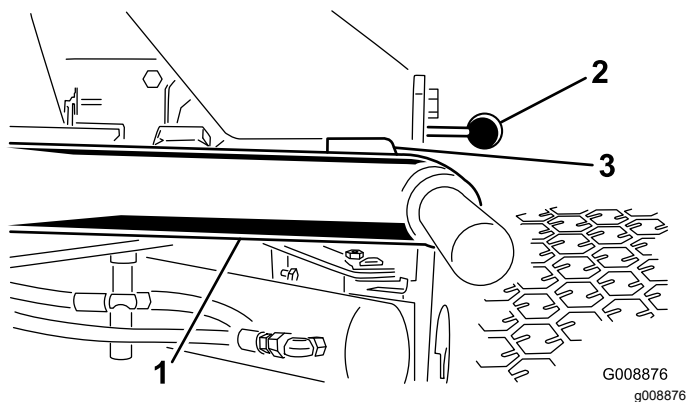

Figure 11
1. Start the engine, raise the cutting units, and check to ensure that the clearance between each lift arm and the floor plate bracket is 5 to 8 mm (0.18 to 0.32 inches) (Figure 11).